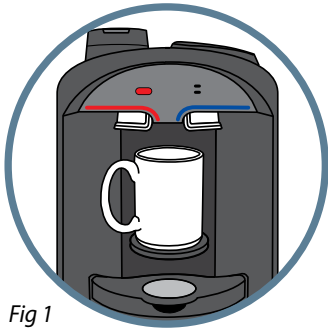

Fig 1
1. Place coffee cup on cup holder (Fig 1).